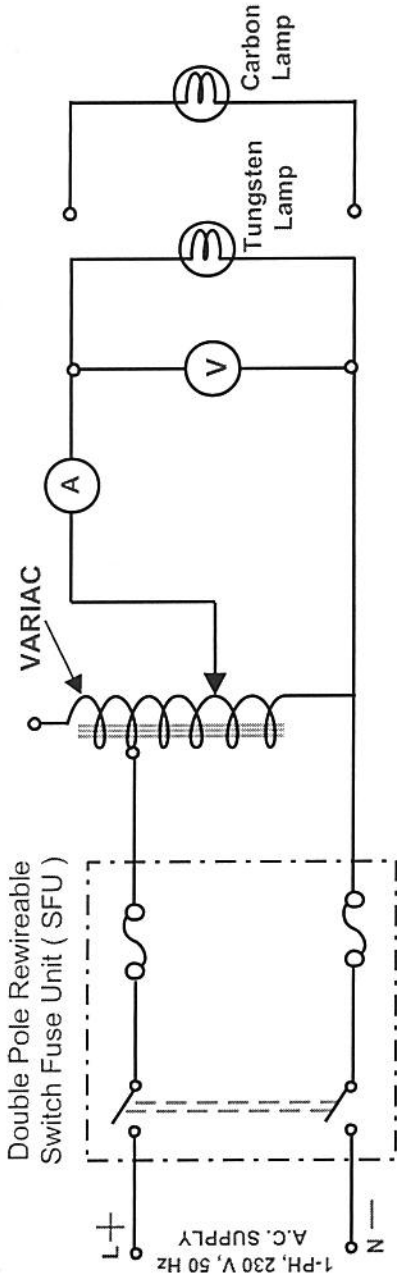

Fig : 6.1 Circuit Diagram for Determination of Lamp Characteristic (Tungsten/Carbon)
1. Connect the circuit as shown in Fig.6.1. First use the Tungsten filament lamp.